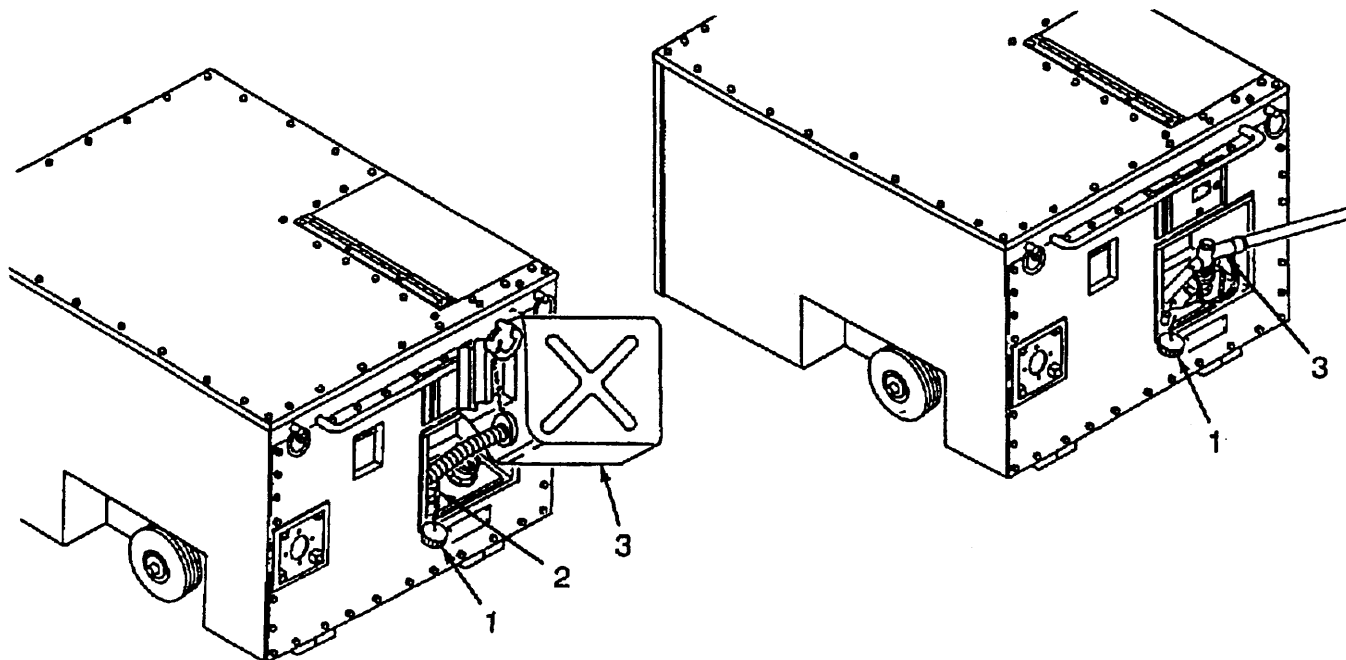

Figure 2-4. Fueling Unit
- c. Fueling Unit. The following procedures contain instructions for refueling of the heater unit's internal fuel tank. (Refer to Figure 2-4)
- (1) Remove fuel cap (1).
- (2) Provide metal-to-metal contact between fuel tank (2) and dispenser (3) to avoid possibility of sparks. A grounding cable, bonding strap, or equivalent may be used.
**If diesel fuel is not available, turbine fuel conforming to MIL-T-83133 maybe used as an alternate. However, greater heating efficiency will be obtained using one of the diesel fuels recommended in step (3).**
- (3) Fill fuel tank with 14 gallons of fuel conforming the Federal Specification V-F-800/MIL-T-83133 of the following class depending upon ambient temperature.